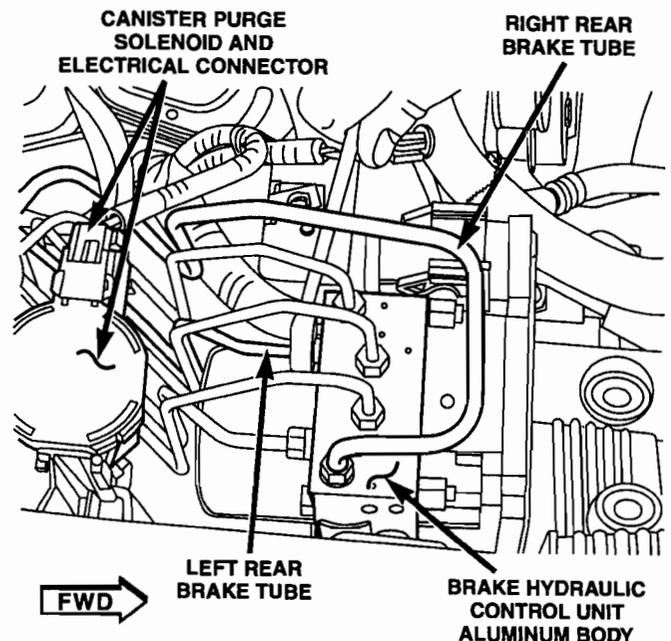

Figure 4
5. Disconnect the electrical connector at the canister purge solenoid (Figure 4).
7. Disconnect the brake tube(s) from the brake hydraulic control unit aluminum body (Figure 4).
12. Connect the brake tube(s) to the brake hydraulic control unit aluminum body (Figure 4). Hand tighten the tube nut(s).
15. Tighten the brake hydraulic control unit tube nut(s) to 220 in. lbs. (25 N·m) (Figure 4).
- 20. Connect the electrical connector at the canister purge solenoid (Figure 4).